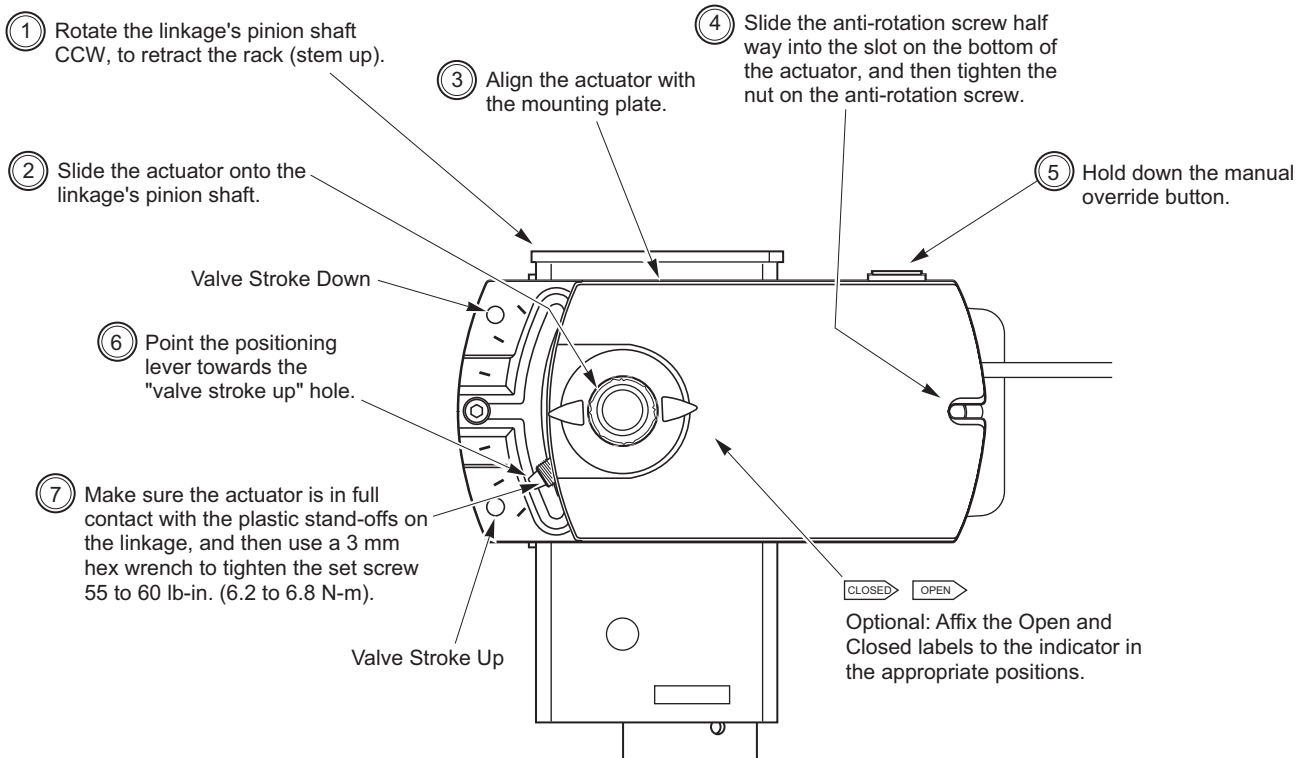

Figure-11 Mounting MX41-6043 and MX-41-6083 Actuators and Setting up Actuator/Linkage/Valve Assemblies.
- Torque wrench, range to include 55 to 216 lb-in. (see Figure-11 through Figure-16 for actual torque requirements of fasteners for individual actuator models)
- a. Install the actuator onto the linkage and valve, and set up the assembly, according to Figure-11.